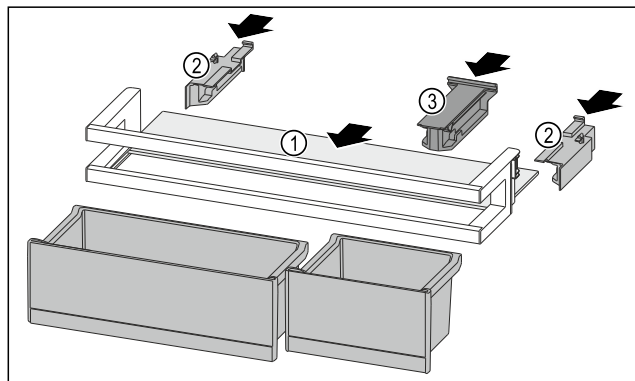

Fig. 173
- ▶ Push the shelf Fig. 173 (1) into the side recesses.
- ▶ Insert the side parts Fig. 173 (2).
- ▶ Insert the holding part Fig. 173 (3).